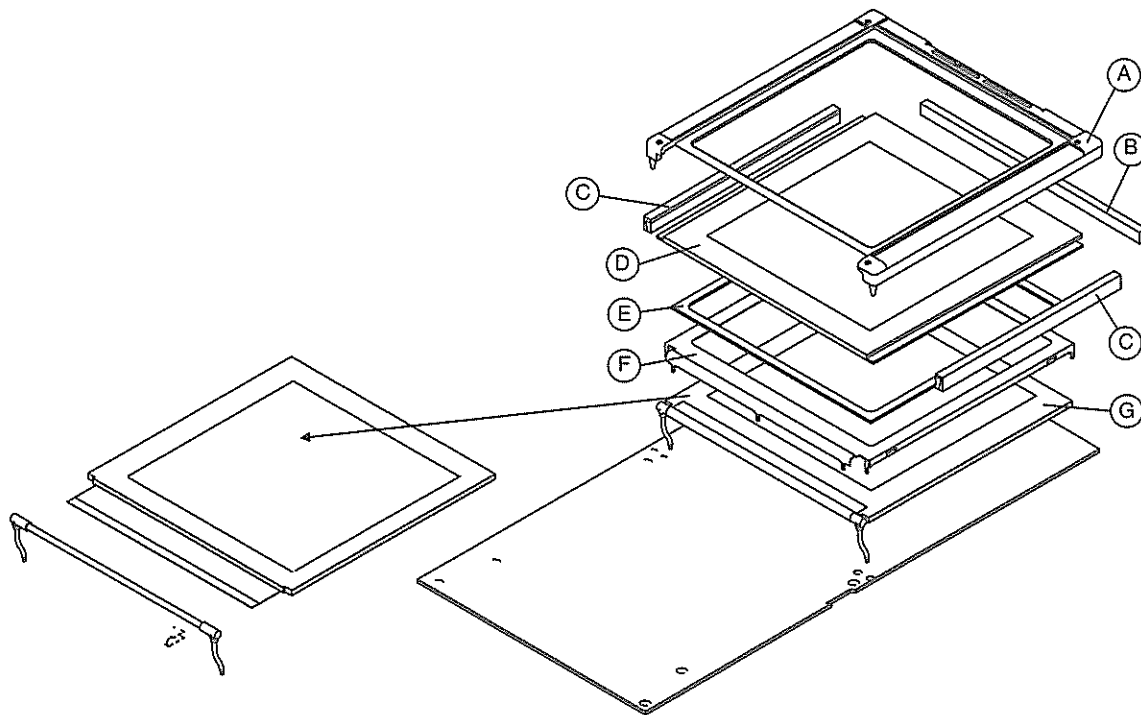

Figure 6-4. Removing the LCD
4. Pull the three metal clamps from the display. Not shown in Figure 6-4.